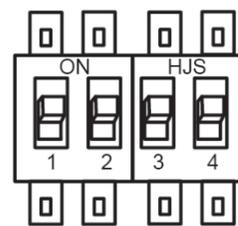

Figure 8
- Associate a zone, or a combination of zones, to the relay using the dip switches (Figure 8.)